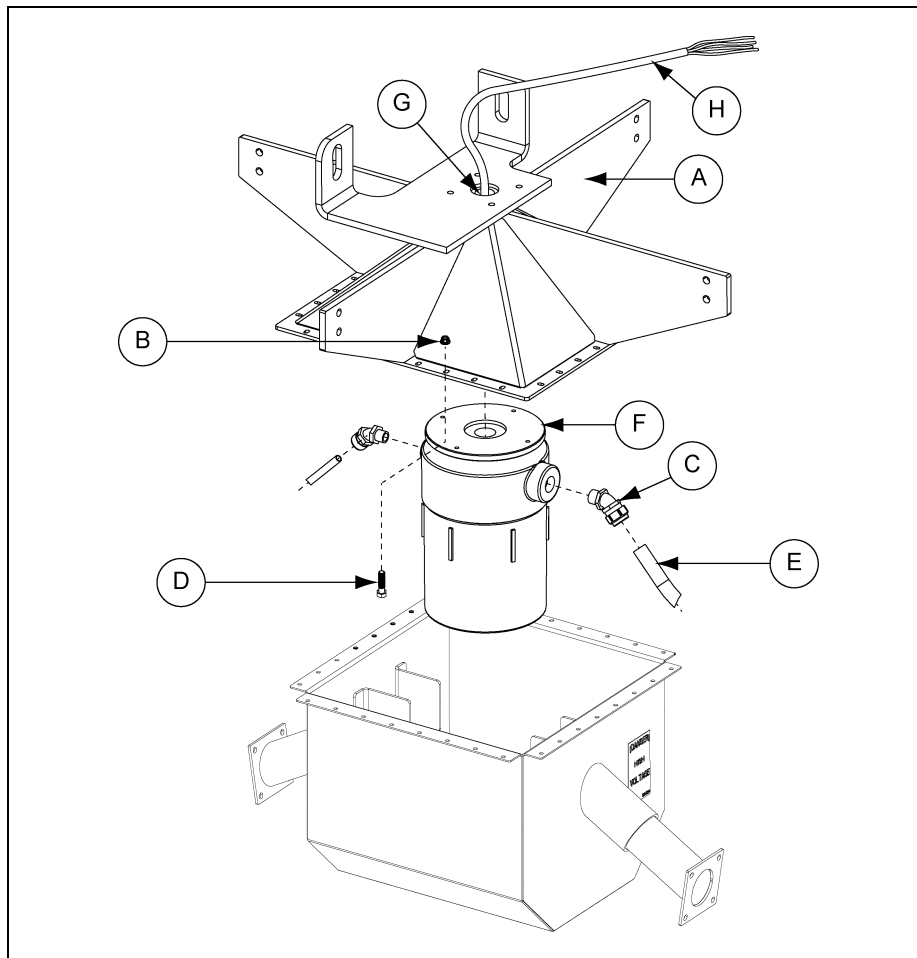

Figure 6A
1. Guide electrical wires (H) from top of cross brace assembly (A), through the cross brace pivot shaft (G) and secure cross brace assembly (A) onto the collector ring (F) with hex bolts (D) and hex nuts (B). Tighten to specification. (See Figure 6A.)
2. Continue to guide the electrical wires (H) from the collector ring (F) through each conduit elbow (C) and attach the conduit elbow (C) to the collector ring (F).
3. Guide the electrical wires (H) through the lower flex conduit (E) and attach to the conduit elbows (C).